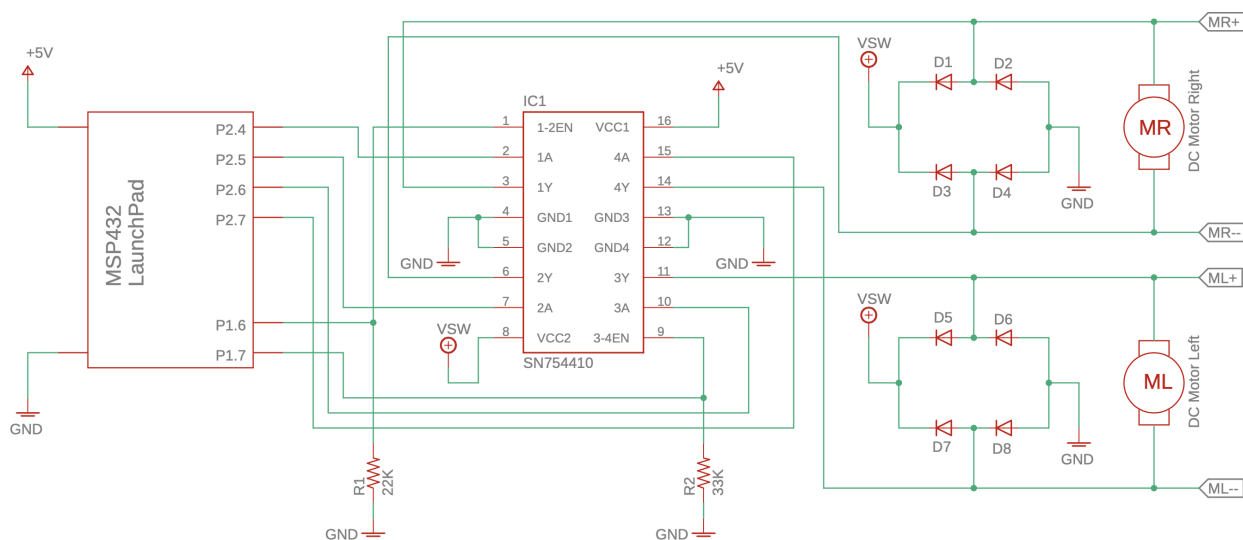

Figure 7: Circuit diagram for the H-bridge interface with motor.
The enable signals (pin 1 and pin 9) are controlled via MSP432 GPIOs P1.6 and P1.7. Setting each enable pin to high will enable the associated driver channels. To make sure that the driver channels are disabled when the MSP432 is off or not running, we connect the enable pins to GND via pull-down resistors, as will be shown in the circuit schematic in Figure 7.
Figure 7 shows the circuit we use to interface the two brushed DC motors of the TI-RSLK-Mechkit robot with the MSP432 LaunchPad. You have already assembled part of this circuit on the breadboard in Lab Assignment 2.
**Note:** The circuit shown in Figure 7 is the same as part of the circuit built in Lab 2.